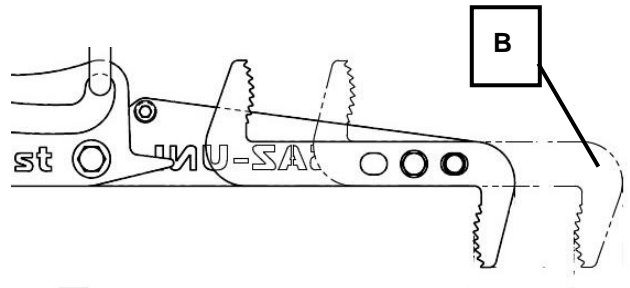

Fig. 5
Increase the gripping range from 550 mm to 625 mm (gripping range (B) see Fig. 5).